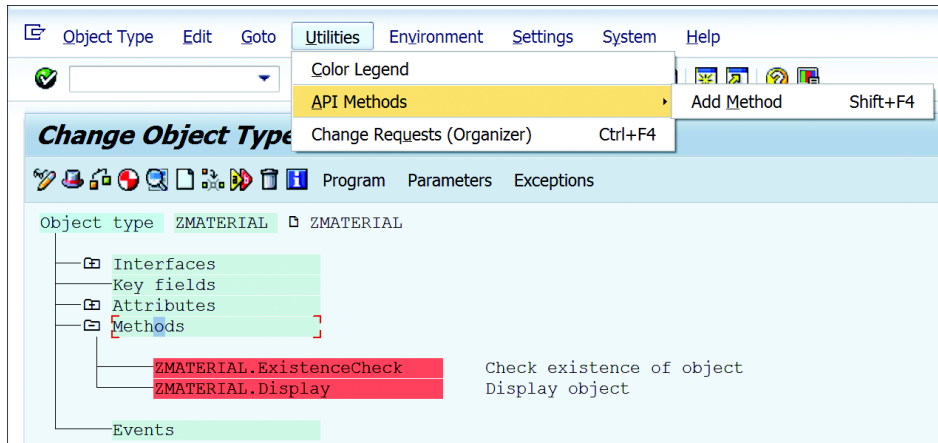

Figure 19.17 Adding BAPI as Method
- Follow the menu path UTILITIES • API METHODS • ADD METHOD, as shown in Figure 19.17. This will start a wizard, which will take you through a sequence of steps to add the function module as a method. The wizard will validate if you've followed all the rules in developing the BAPI function module.